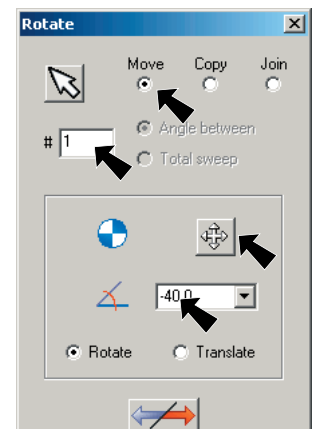

Fig. 30
Click the **Define Center Point**  button, **Fig. 30**.
Step 5. Set **-40 for Rotation Angle**  and click OK , **Fig. 30**.